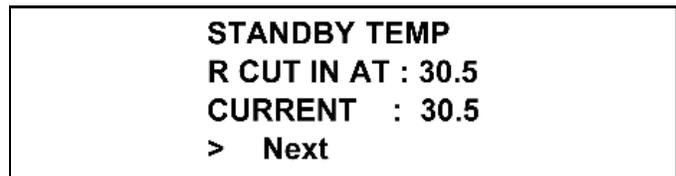

Figure 2-74
2. Save the setting by selecting the Calibration key  to advance to the next screen for the right side freezing cylinder Standby temperature setting. (See Figure 2-74.)